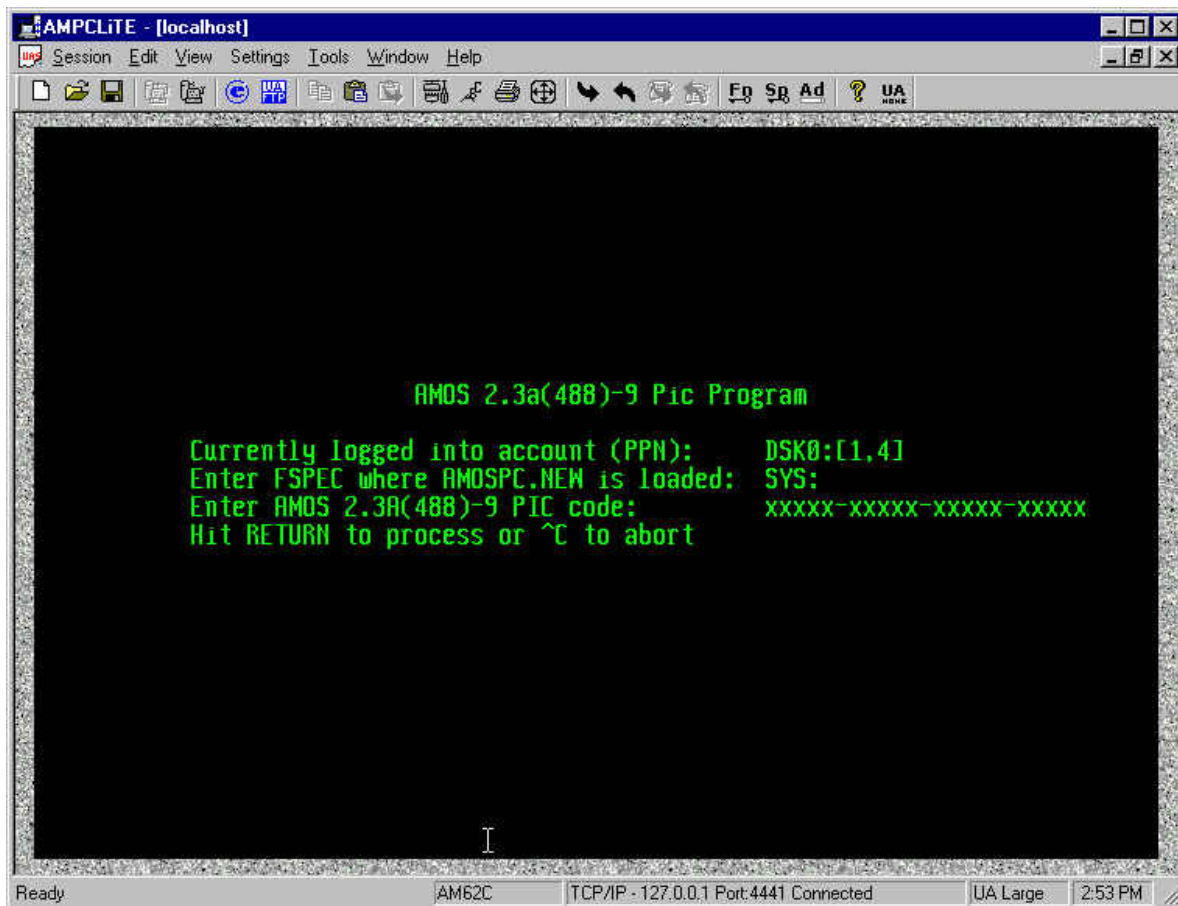

Figure 8 – PIC Code Installation Screen
16. Enter the new AMOS PIC code, supplied with the product, by typing **INSTPC** at the AMOS prompt. The screen should appear as shown in Figure 8.